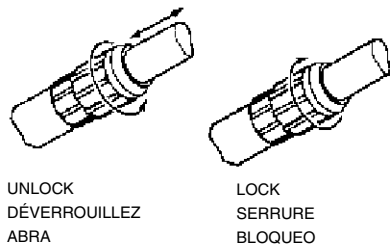

Fig.8
1. To extend the pole, loosen coupling by turning coupling nut counterclockwise as shown in Fig. 8. Pole will slide freely.
3. To lock pole in position, tighten coupling by turning coupling nut clockwise (See Fig. 8) until firmly hand tight. Make sure saw handle is aligned with pole handle before tightening coupling nut.